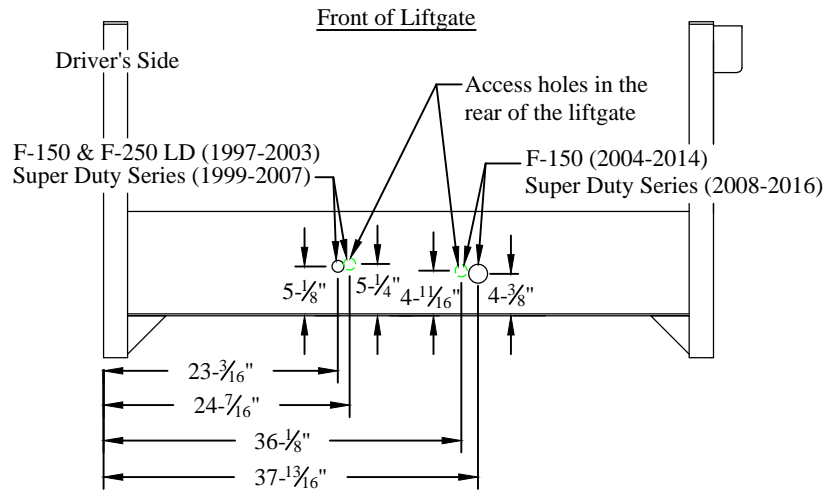

Figure 14: Spare tire access.
2. **Remove** the black plastic plugs for your application (Figure 14).